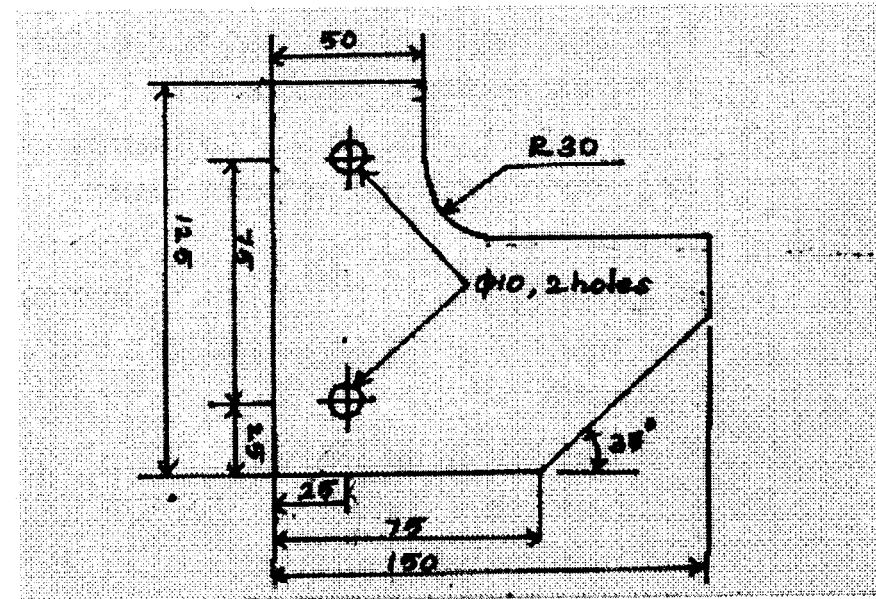

FIG 1
- a) Write the complete APT part program to perform the profile milling operation for the part drawing in FIG 1. Tooling = 20mm diameter end mill with two teeth, cutting speed = 125mm/min. and feed = 0.10mm/tooth. The part is 10mm thick. Use the lower left corner of the part as the origin in the x-y axis system.